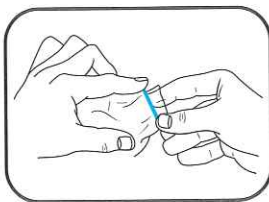

Figure-04
- Place the Blue O-Ring around the open end of the balloon and roll at least 1 inch up (Figure-04).